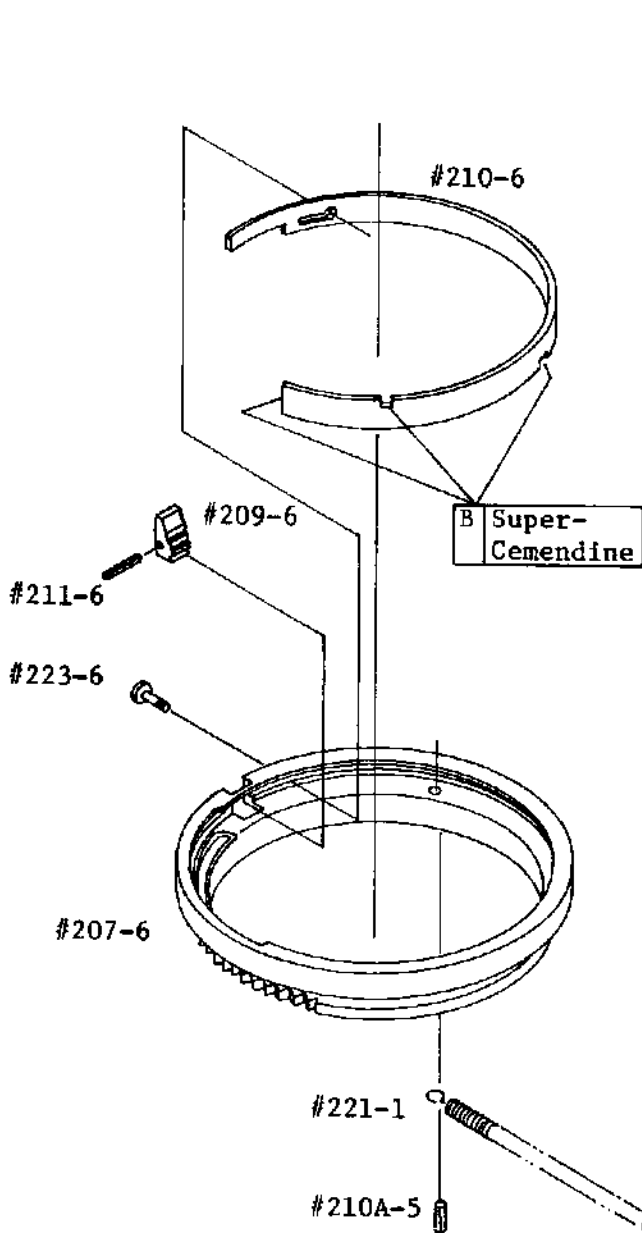

Fig. 7-1 Aperture coupling piece
- [RN] Put #209-6 into the cutout of #207-6 to drop #211-6 in the slot of #207-6. See Fig. 7-1.